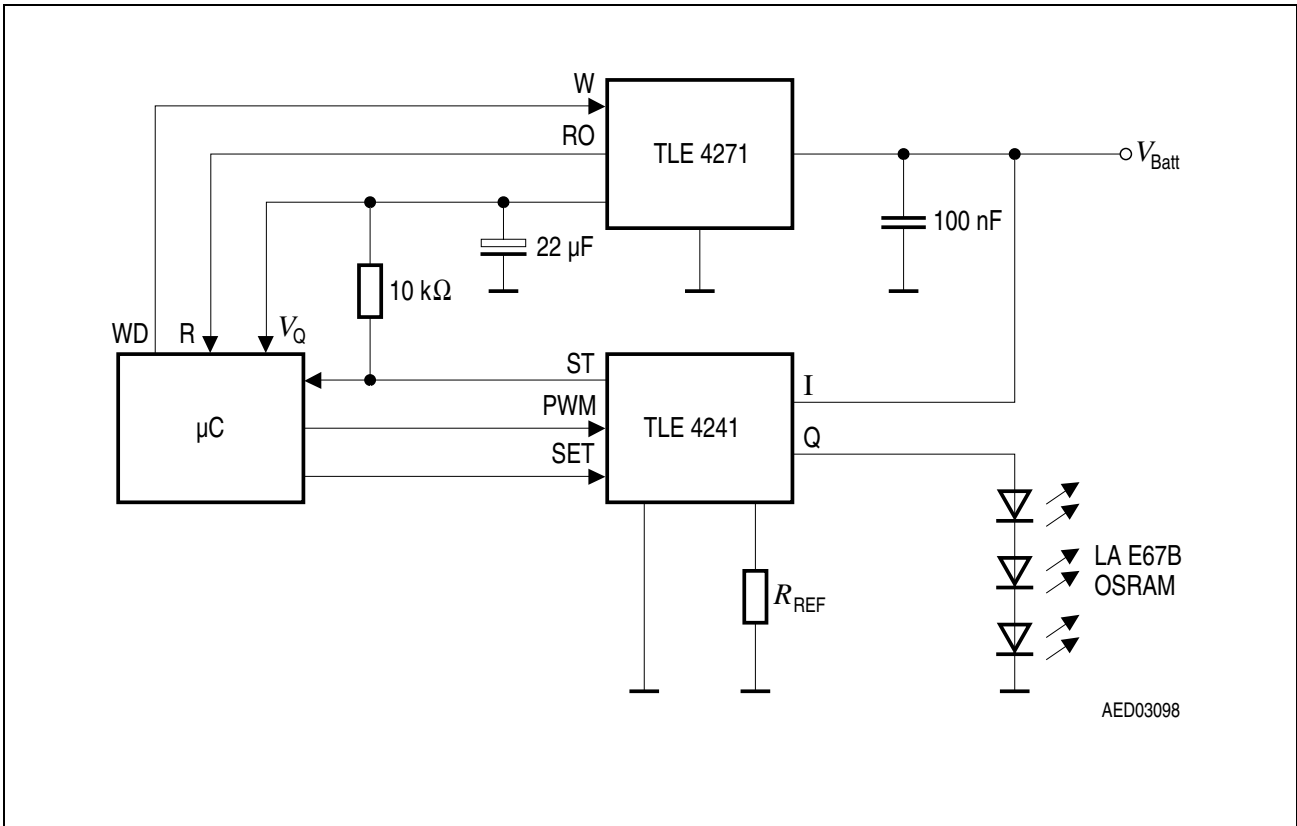
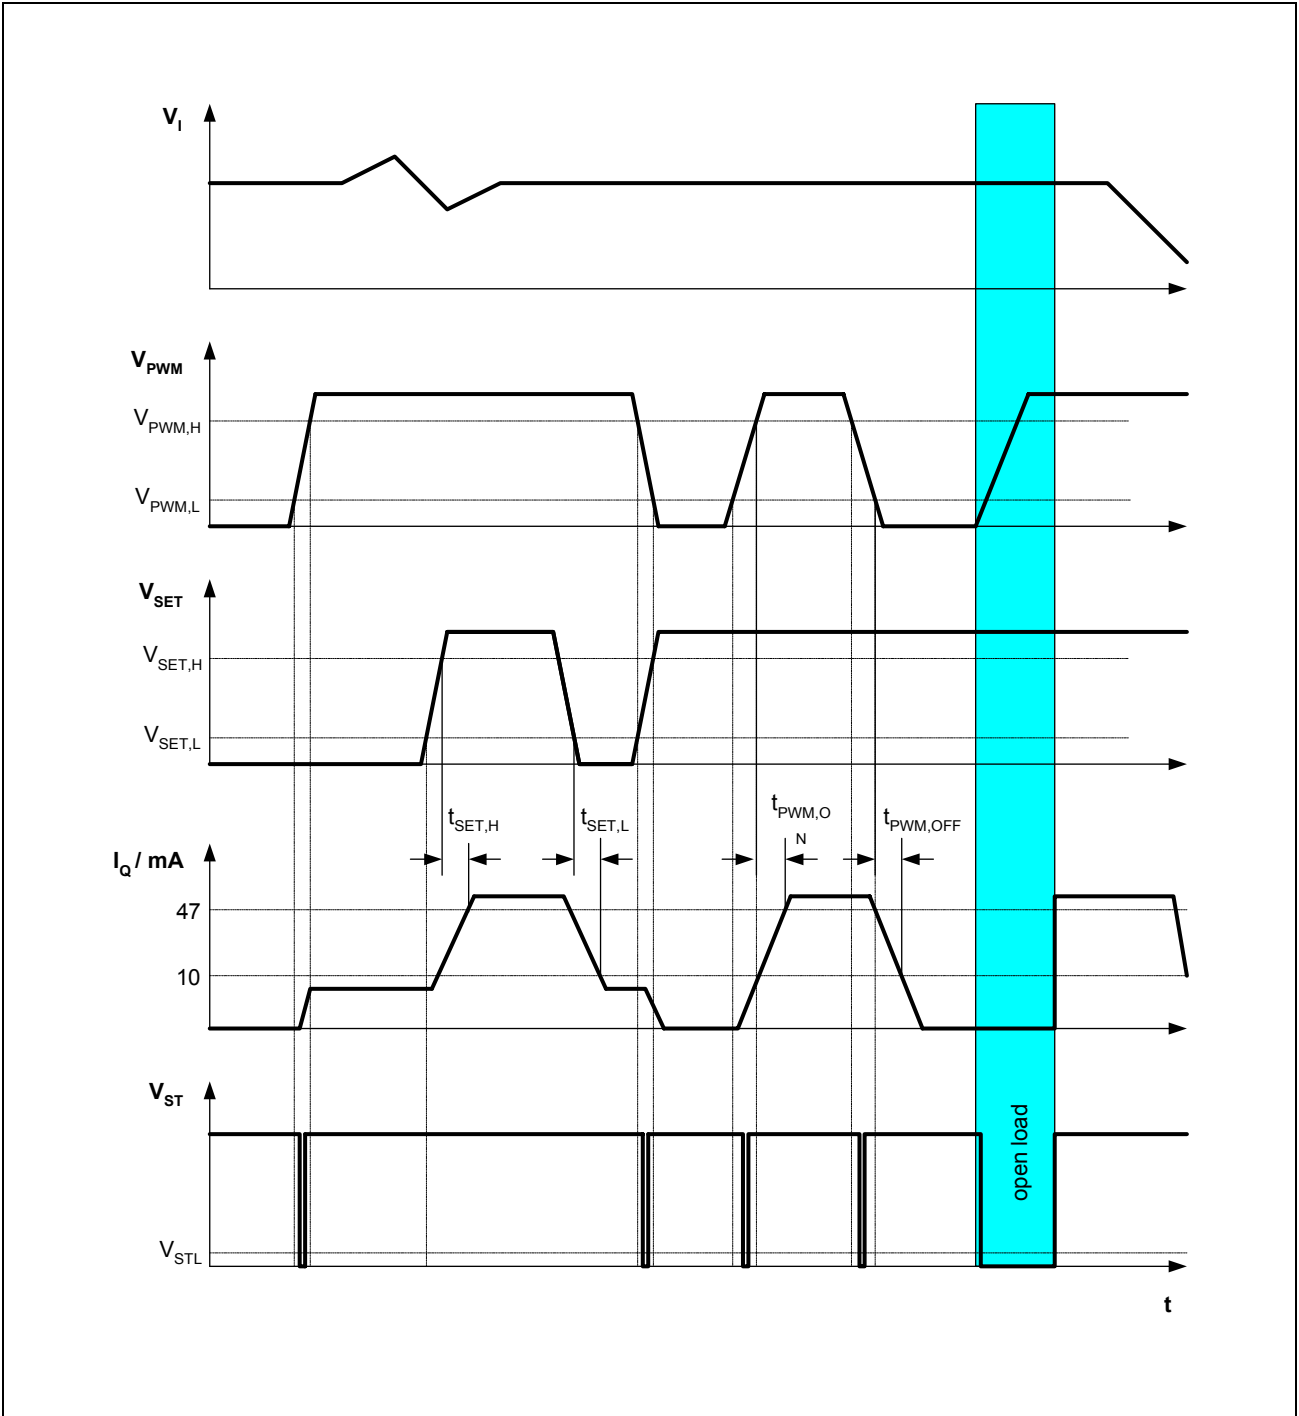

Figure 3 Application Circuit
Figure 4 Function and Timing Diagram
Fig. 3 shows a typical application with the TLE 4241GM LED driver. The 3 LEDs are driven with an adequate supply current adjusted by the resistor R_{REF} . Thus brightness variations due to forward voltage spread of the LEDs are prevented. The luminosity spread arising from the LED production process can be compensated via software by an appropriate duty cycle applied to the PWM pin. Hence selection of the LEDs to forward voltage as well as to luminosity classes can be spared. The slightly negative temperature coefficient of the TLE 4241GM output current protects the LEDs against overtemperature stress if the IC is placed nearby the LEDs. The status output of the LED driver (ST) detects an open load condition enabling to supervise correct LED function. The functionality of the ST, SET and PWM as well as their timings are shown in Fig. 4.